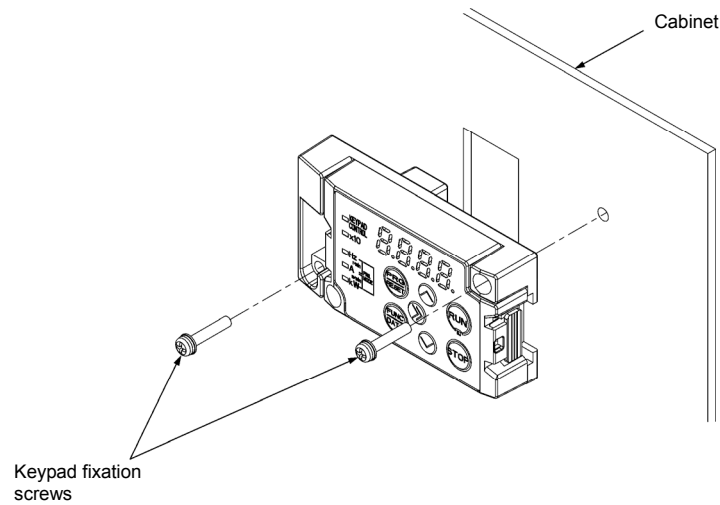

Figure 2.3-7 Attachment of the Keypad
- (4) Fix the keypad to the cabinet using 2 keypad rear cover fixation screws. (Refer to figure 2.3-7) (tightening torque: 0.7 N•m)